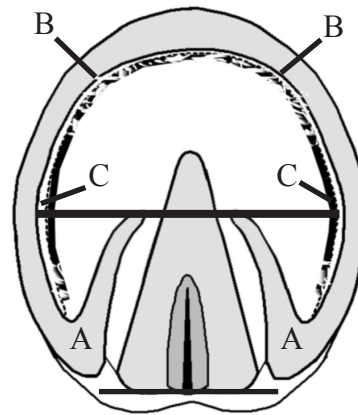

Fig. 3
9. Final heel preparation consists of rasping a flattened area of the heel that includes a small portion of the bar and produces a substantial base of support. The heels should also be the same size and curvature. (Figure 3-A) The heel generally ends close to the back of the frog, which is good rule of thumb; however, use the live sole as the primary guide and the back of frog as a secondary guide.
10. Final toe preparation consists of rasping the wall down to the level of the sole, until you have just touched the black line with your rasp. You should make equal contact with the black line on each pillar (toe-quarter). (Figure 3-B) This will ensure good Lateral/Medial Balance. Be conservative and do not completely remove the black line.
11. Blend the wall in the quarters with the wall at the toe and the heel until the wall is perfectly flat and ready to accept the shoe. There should be an equal sole/wall gap in the quarters. (Figure 3-C)
12. It is very important to dress any flares on the outer wall prior to fitting your shoe. Select a prominent growth ring about half way up the hoof wall. Rasp from there down to the distal end of the wall. (Figure 3-D) The wall should be dressed so that it is basically straight from the hairline to the ground and you have achieved a uniform wall thickness on the ground surface. (Figure 4-A) If there is a considerable amount of distortion, you may not get the wall perfectly straight the first time or two. Your indication to stop rasping is when you start to see the white zone appear near the bottom of the wall. Within 3 or 4 shoeing cycles, the wall will migrate back to a better orientation with the coffin bone and serious distortions will not be a problem.